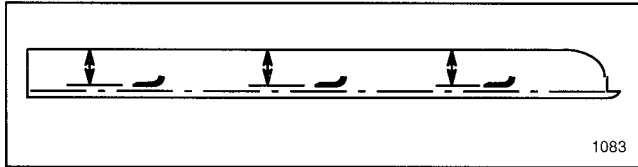

Figure 11
2. Rotate blade(s) until the ends face forward and backward. Measure from inside of cutting unit to cutting edge at front of blade (Fig. 11), and remember this dimension.